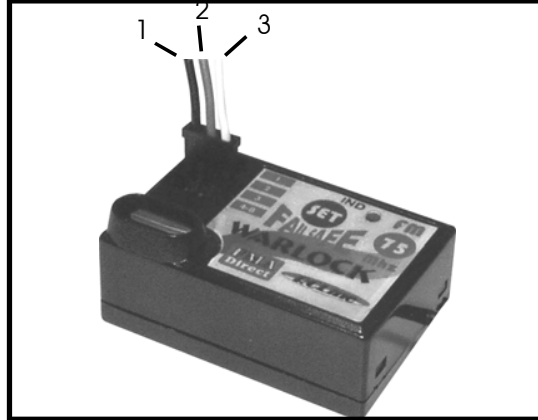

Figure 1 - Model 201FM Shown
WARNING: IF YOU INTEND TO INTERFACE AIRTRONICS BATTERIES / SERVOS / SPEED CONTROLLERS THAT USE "OLD STYLE" (PRE-"Z TYPE") AIRTRONICS CONNECTORS TO THE WARLOCK, YOU MUST UPDATE THE CONNECTORS TO THE CURRENT INDUSTRY STANDARD POLARITY (SEE FIGURE 1) AND PROPER INDUSTRY STANDARD SHELL THICKNESS. YOU MAY READILY CONVERT YOUR EXISTING "OLD STYLE" AIRTRONICS CONNECTORS TO CURRENT STANDARDS 1) BY INSTALLING APPROPRIATE ADAPTERS OR 2) BY REMOVING THE OLD CONNECTORS AND PINS AND REPLACING THEM WITH FMA PART NUMBER SEASSYJ. EACH SEASSYJ CONTAINS ONE JR COMPATIBLE MALE SHELL AND 3 FEMALE PINS. YOU WILL NEED TO CRIMP THE PINS AND SOLDER THEM TO THE WIRES OF YOUR EXISTING EQUIPMENT AND PLUG THEM INTO THE SHELL PROVIDED. MAKE
CERTAIN THAT THE RED WIRE (+V) GOES TO THE CENTER PIN AS ILLUSTRATED IN FIGURE 1. FMA WILL NOT ACCEPT RESPONSIBILITY FOR ANY ATTEMPT TO USE "OLD STYLE" AIRTRONICS CONNECTORS WITH WARLOCK RECEIVERS THAT DO NOT HAVE THE POLARITY CHANGED TO INDUSTRY STANDARDS.
Care should be taken when installing your receiver to isolate the electronics from vibration and shock. If possible, wrap the receiver in 3/8" thick foam rubber. Restrain the foam-packed receiver using double-sided tape, Velcro or a rubber band if necessary. Extend the antenna to its full length. Do not coil the antenna up or range will be shortened. When hooking up servos and speed controllers to your receiver, use TABLE 1 and FIGURE 1 to check proper plug wire color orientation.
1. Make certain battery power, all servos, and speed controllers are connected to the unit as per Table 1 and Figure 1.